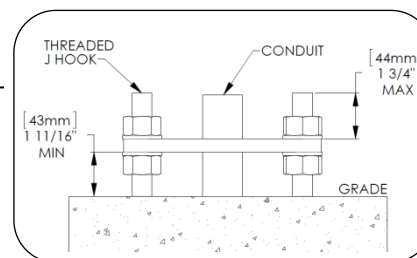

Fig. 3 – Anchor install detail, 4.2m, 5.0m or 5.8m pole
2. Install anchor hooks, hex nuts, washers and wooden template as shown in Fig 3 and Fig. 4. Level template in all directions. **Note:** template thickness is less than base plate thickness. Dimensions given account for the difference.